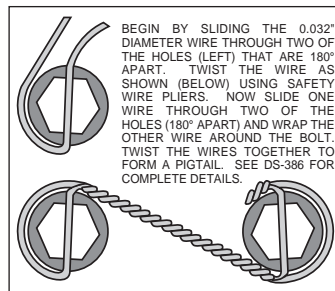

Figure 3. Safety Wire Diagram
- Orient the rotor (6) and the hat (7) as shown in Figure 1 and Photo 2. Attach rotor to hat using bolts (9) and washers (8). Using an alternating sequence, apply red *Loctite*® 271 to the threads, and torque to 155 **in-lbs**. For an added measure of security, the bolts may be safety wired using standard 0.032 inch diameter stainless steel safety wire as shown in Figure 3. Please refer to Wilwood's data sheet DS-386 for complete